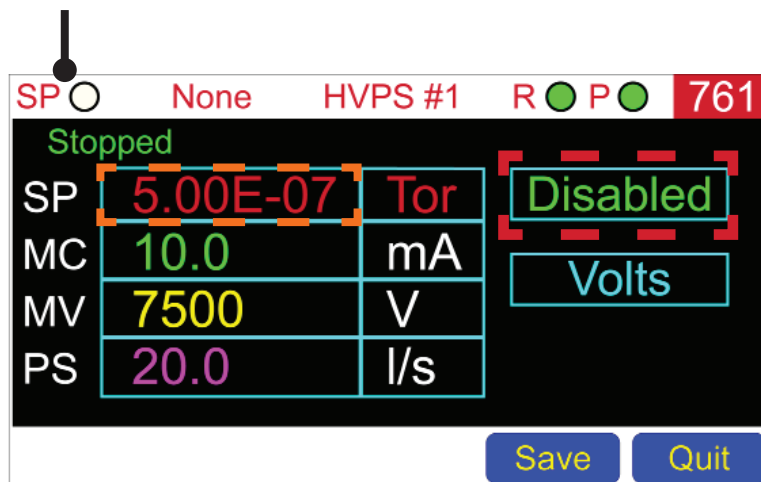

Figure 21. Set point parameter and toggle button
The set point function (and relay) is by default disabled — the SP indicator in the Status Bar will display . As shown in Figure 21, the set point parameters are enclosed (for illustrative purposes) in an orange and red rectangle. To view and modify the set point parameters remotely, see "Communication Protocols".
1. Tap **Config** to enter the Configuration display (See Figure 21)
2. Tap the HVPS green area on the Configuration screen to enter the channel configuration display (see Figure 21)
3. As shown in Figure 21, all the channel-specific parameters are available on screen
As shown in Figure 21, the set point indicator in the Status Bar will change to  when the set point function is disabled and  when the set point function is enabled after tapping **Save**.